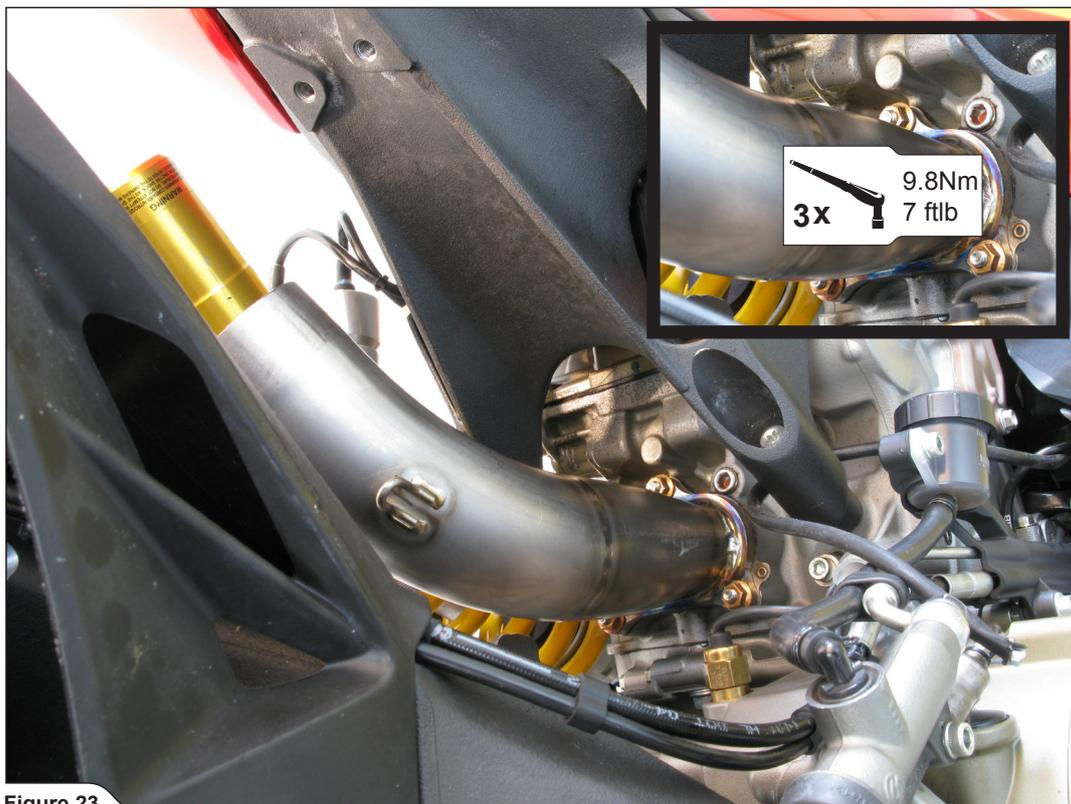

Figure 23
3. Tighten the rear header onto the cylinder head, using stock nuts (Figure 23).